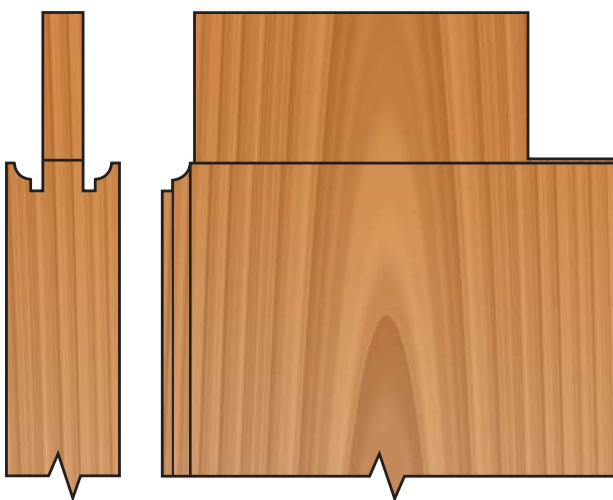

Figure 13
a) First, carefully “haunch” the tenons as shown in as shown in Figure 13. This step produces a stronger and more attractive joint and conceals the tenon within the end of the stile. Cut the haunched tenon with a band saw, jig saw or handsaw.